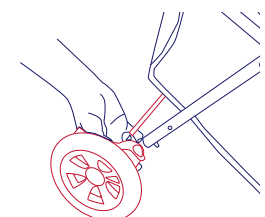

Figure 3.
- Lean the stroller forward to rest on the front wheels. To attach the rear wheels, position the rear axle and wheel assembly such that the brake levers are facing to the rear of the stroller. Press the rear wheel assembly onto the rear frame tubes being careful that the push buttons on the forward side of each rear tube engage the hole on the forward side of each rear wheel housing. Pull on the rear wheel assembly to ensure that it is securely attached to the stroller. Please see figure 3.